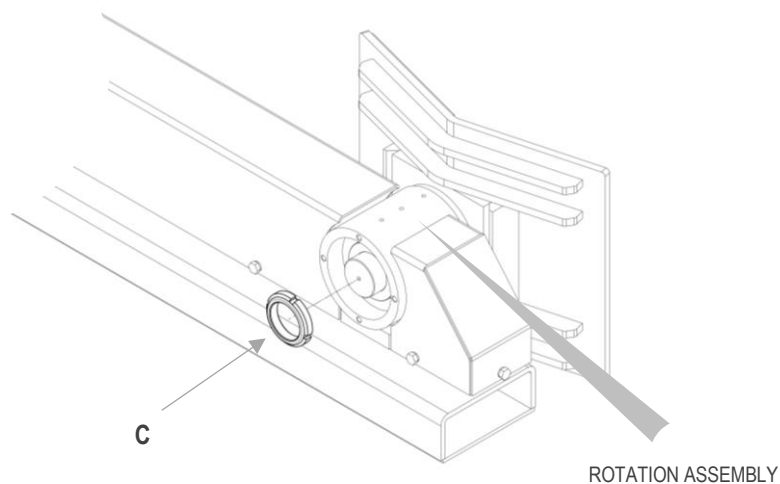

Figure 41
3. Remove the ring nut **C** that fastens the pad (see Figure 41)